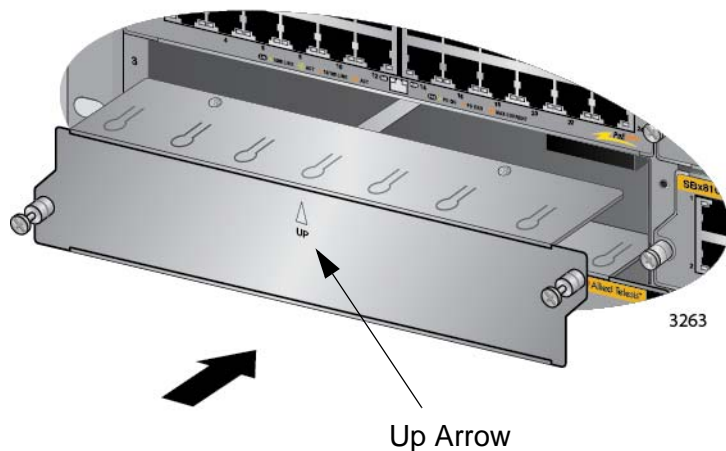

Figure 89. Installing a Blank Slot Cover
1. Position a blank slot cover over an unused slot, as shown in Figure 89. The up arrow on the panel must be pointing up.